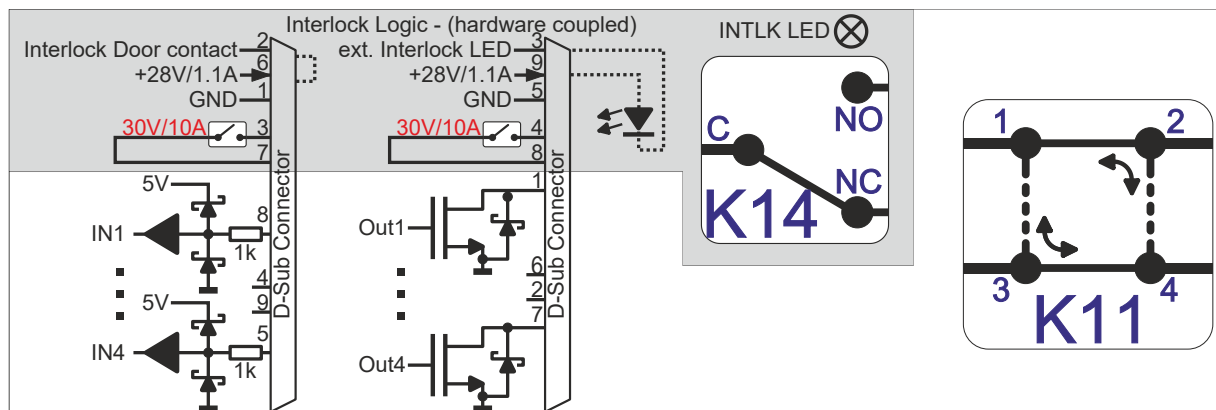

Figure 4-64: Block diagram of RF switch module R&S OSP-B114
The male D-Sub 9 connector labeled "IN" provides 4 input channels and 5 other lines, as shown in Figure 4-64:
The female D-Sub 9 connector labeled "OUT" provides 4 output channels and 5 other lines, as shown in Figure 4-64:
- Pin 3 of the output port ("Interlock LED" in Figure 4-64) is controlled by the module's interlock logic and activated together with the "INTLK LED". It is specified at a maximum of 100 mA. Hence, you can use pin 3 and pin 9 ("+28 V DC") of the output port to control a remote LED or a different indicator in a separate location, as in Figure 4-64. For example, this indicator can be on the front panel of a rack or in an office.
- If the LED shows red light, there is no connection between the input port's pins 2 ("Interlock Loop") and 6 ("+28 V DC") of the input port (see Figure 4-64). It indicates that the interlock is open.